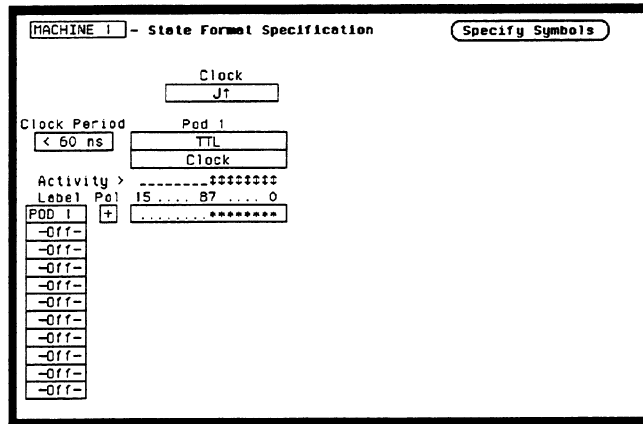

Figure 3-13. Format Specification for Data Test 2
- In the **State Format Specification** assign the **Clock Period** to **< 60 ns**, and assign the rising edge of the J clock to the **Clock** field. Also, assign the lower 8 channels of the pod under test to a label as in figure 3-13.
4. In the **State Format Specification** menu assign the **Clock Period** to **< 60 ns**, and the falling edge of J clock to the **Clock** field. Also, assign the lower 8 channels of the pod under test to a label as in the previous test figure 3-13.